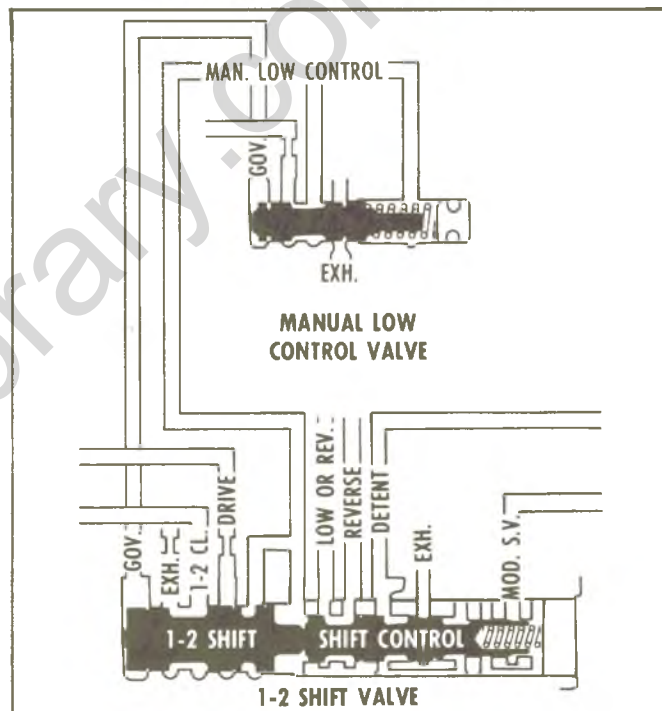

Fig. 17M—Manual Low Control Valve
**Manual Low Control Valve (Fig. 17M)**